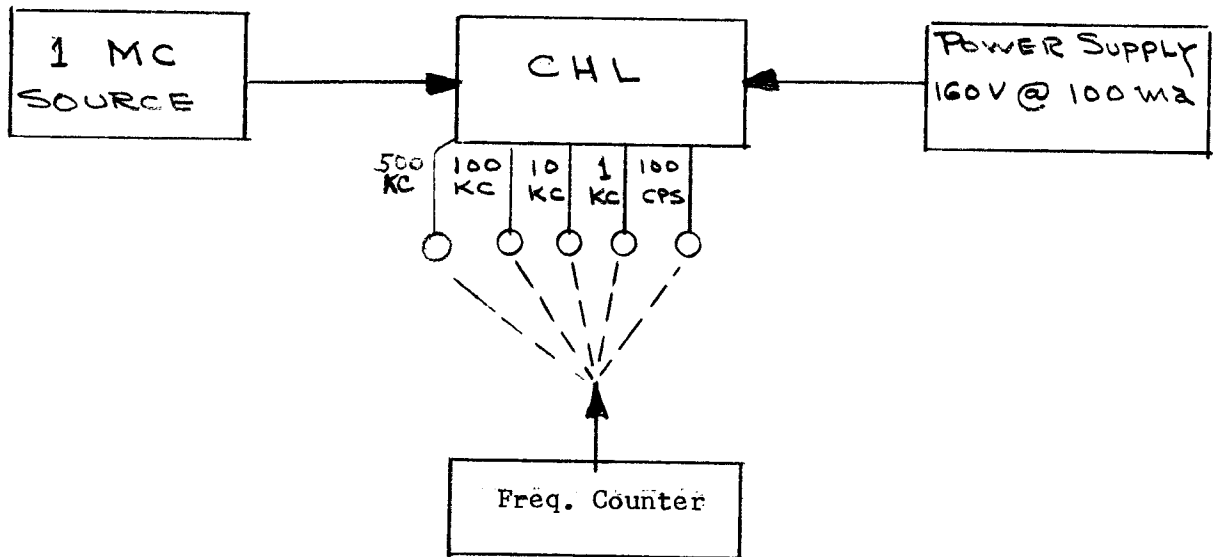

FIG 1
1. Set the divider chain as shown in Fig. 1.